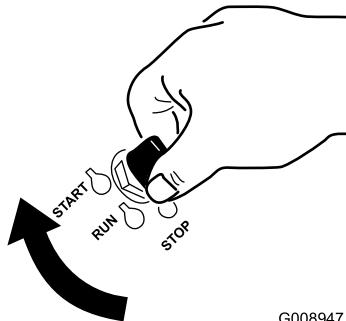

Figure 18
1. Turn the ignition key to the Start position (Figure 18). When the engine starts, release the key.
6. Turn the ignition key to the Start position (Figure 18). When the engines starts, release the key.